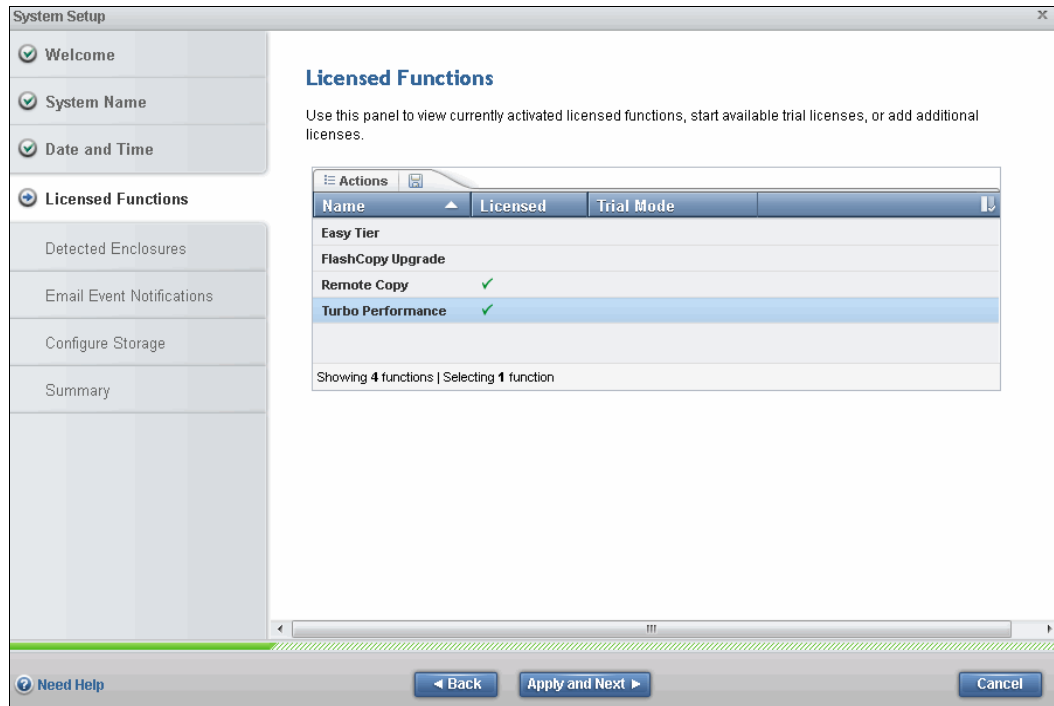

Figure 2-25 Initial setup: Licensed Functions
7. The next window of the system setup that is opened is the Licensed Functions window, as shown in Figure 2-25. In our example, the functions Remote Copy and Turbo Performance are licensed. It is possible to activate licensed functions now or later.